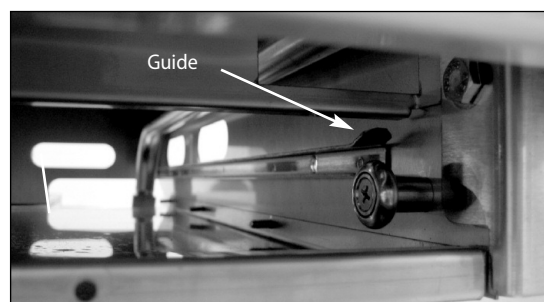

Fig. 62
- Align the side of the drip tray with the guides (Fig. 62).